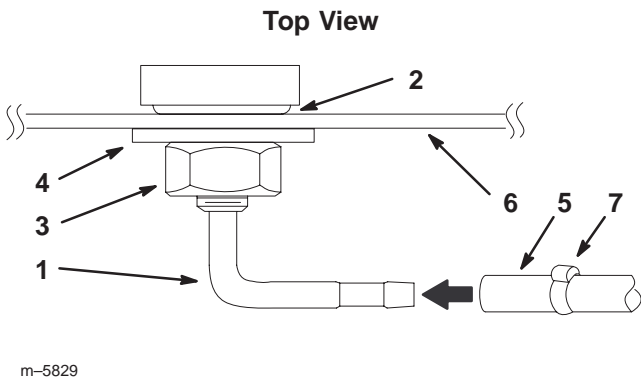

Figure 5
10. Repeat these procedures for the bulkhead fitting on the side of the fuel tank (Fig. 5).